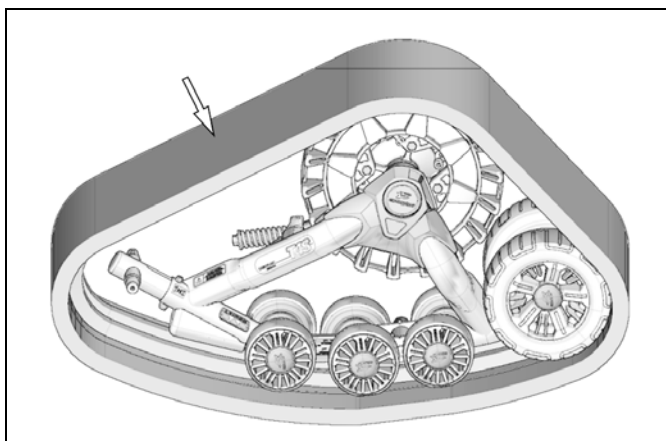

Figure 33
- Install the rubber track. See Figure 33.